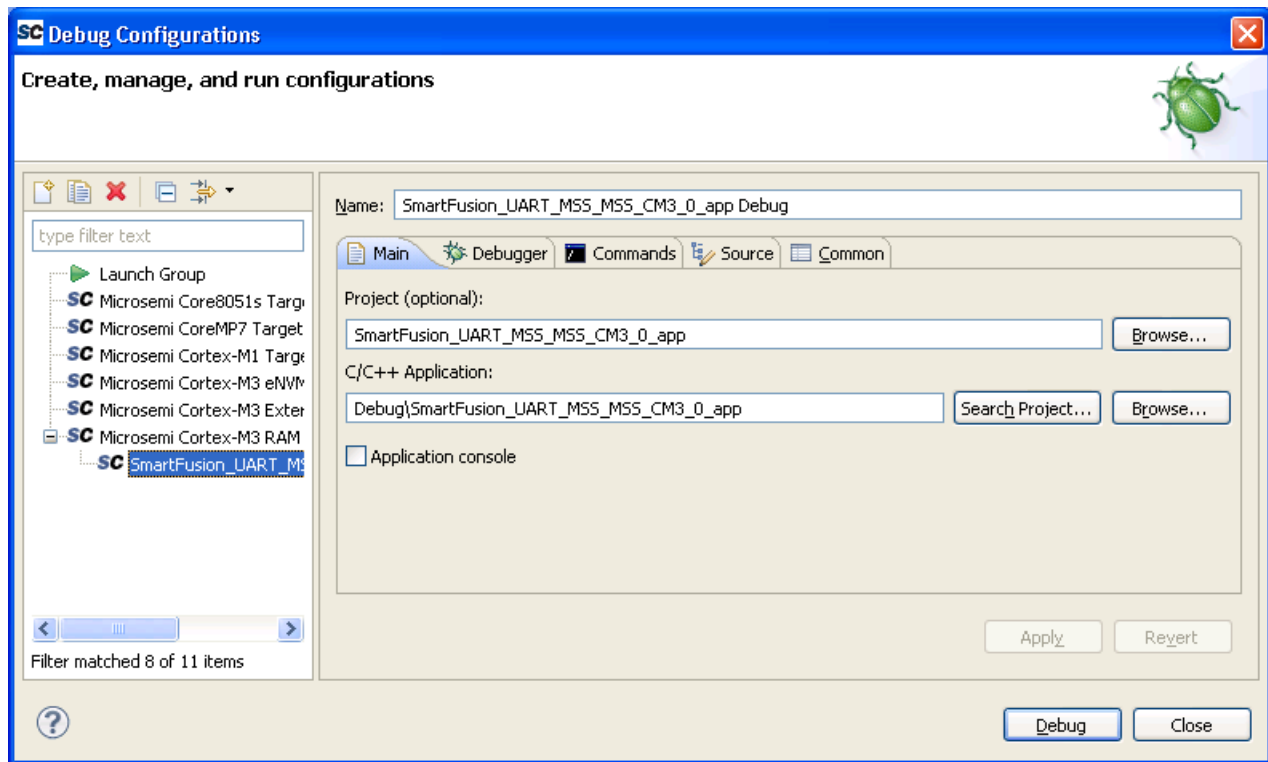

Figure 25 · Debug Configurations Window
2. Double-click on **Microsemi Cortex-M3 RAM target**. The **Debug Configurations** window is displayed, as shown in Figure 25 . .